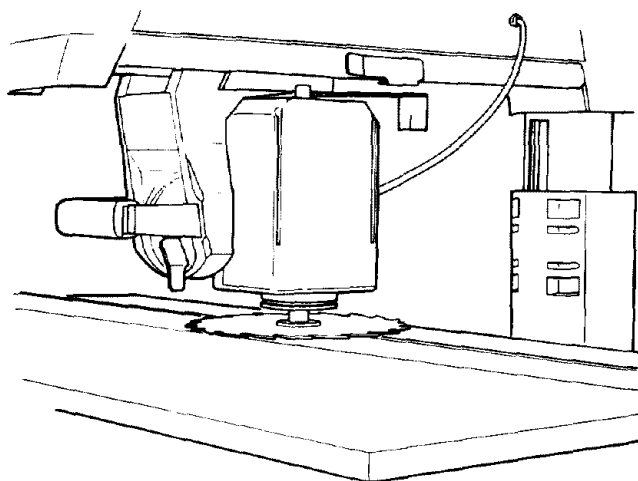

Fig. 93
3. Unlock the *bevel lock*, and turn the *motor* so that the *blade* is parallel to the *table*. (Figure 93)